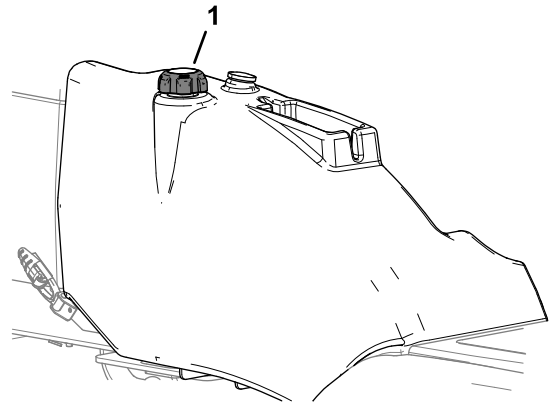

Figure 19
3. Remove the cap from the fuel tank (Figure 19).